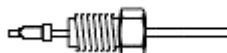

Figure 2. Placement of nut and ferrule on the tubing
4. Using the fittings supplied with the module (pump, mixer, pressure module, valves, etc.), or the spares provided, place the nut and then the ferrule on the tubing. See Figure 2 for ferrule and nut assembly.